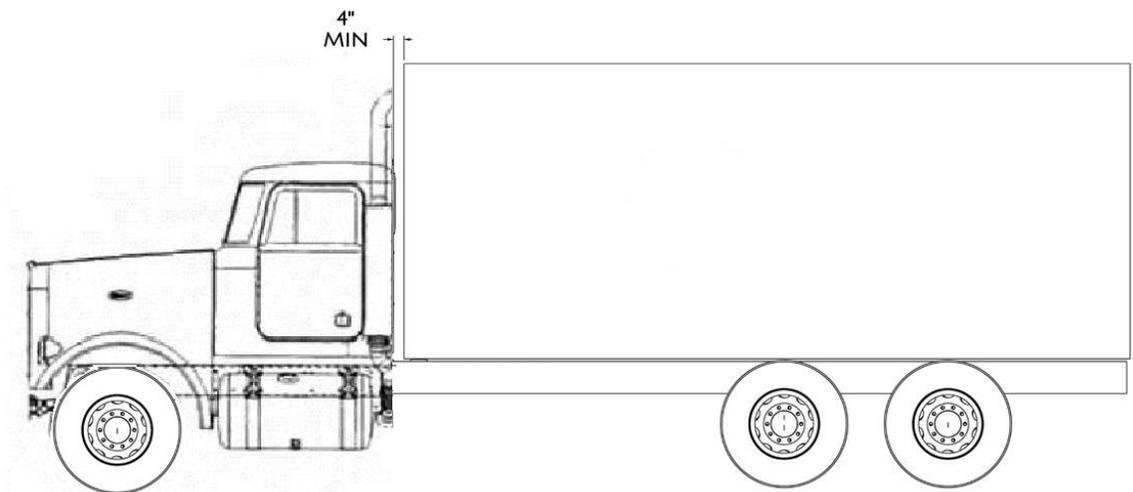

FIGURE 4-2. Minimum Back of Cab Clearance
*Maintain adequate clearance between back of cab and the front (leading edge) of mounted body. It is recommended the body leading edge be mounted 4 in. behind the cab. See **FIGURE 4-2**.*